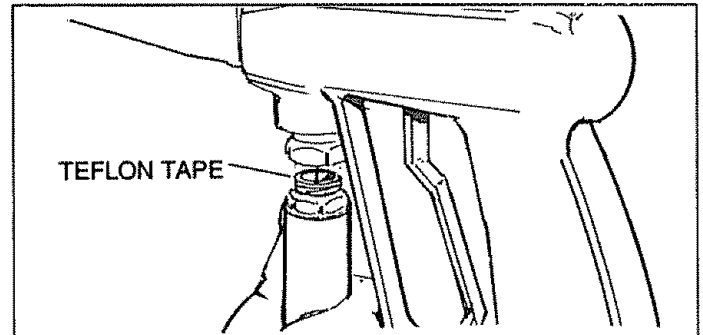

FIG. 6
- Attach fitting with teflon tape to gun and wand assembly (Fig. 6). You may want to spin gun or spin hose to secure connection. Tighten hose using 1 1/16" and 7/8" wrenches.